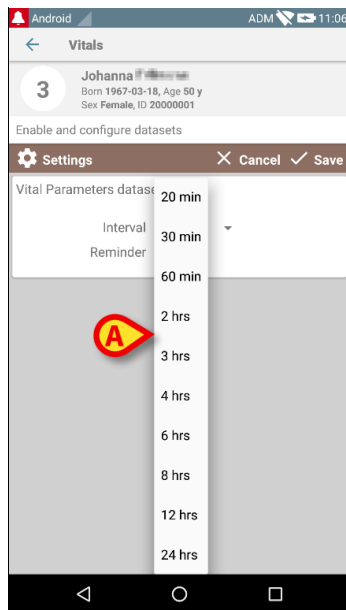

Fig 99
- Touch the “Interval” menu to decide the dataset timing (Fig 99).